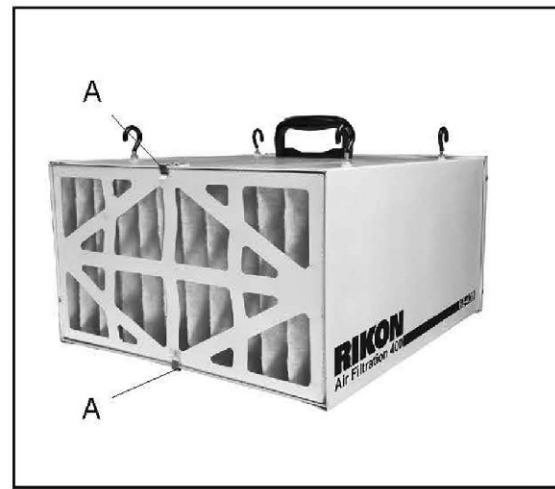
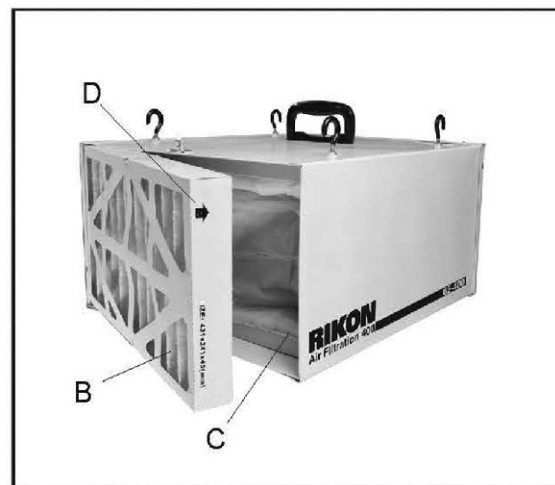

Fig.10
Fig.11
Change the filters (Fig.10 and 11)
1. Lift up the two clips Fig.10, (A) on the top and bottom of the cabinet rear, and remove the outer filter Fig.11, (B) from the cabinet housing.
2. Pull the inner filter Fig.11, (C) out of the cabinet.
4. Install a new outer filter. The arrow on the outside of the filter indicates the proper direction to insert the filter into the cabinet. Fig.11, (D)